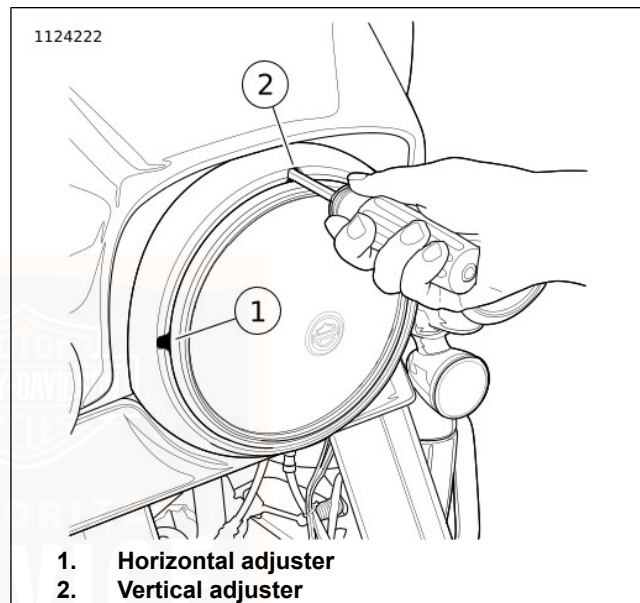
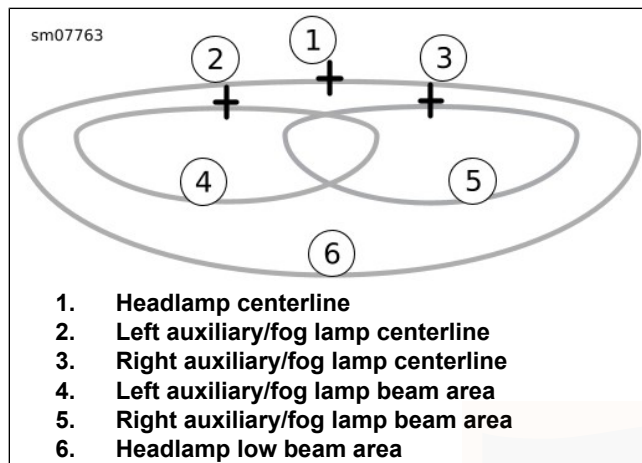

Figure 92. Headlamp Adjusters: All except Frame-Mounted Fairing (typical)
Figure 96. Headlamp Pattern: LED Type with Auxiliary/Fog Lamps
2. **All except frame-mounted fairing:** See Figure 92. Insert a 5/32 in ball end hex wrench through adjuster slots in trim ring.
- a. **Horizontal:** Turn the horizontal adjusting screw (1) to adjust light beam left and right.
- b. **Vertical:** Turn the vertical adjusting screw (2) to adjust light beam up and down.
- c. See Figure 95 or Figure 96. Adjust headlamp light beam.
4. See Figure 95 or Figure 96. Mark the auxiliary/fog lamp horizontal and vertical centerlines (2, 3) on the wall.
- b. **LED:** Adjust the left auxiliary/fog lamp so the entire high intensity zone (4) is below the centerline as shown in Figure 96.